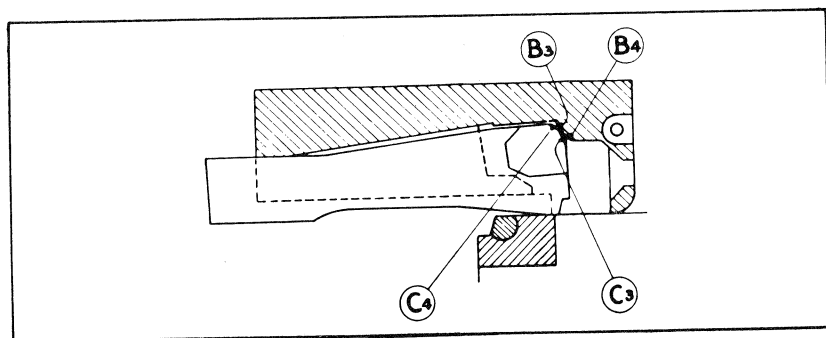
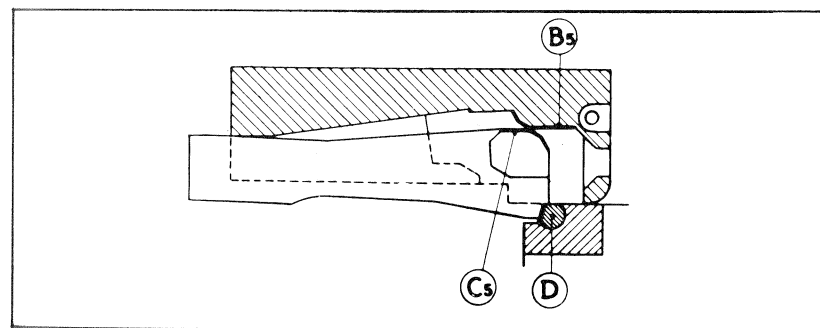

Fig. 10
Fig. 11
- The bolt does not continue through the floor of the receiver and it is held in place by the action of the slide push ramps (B3) on the shoulders of the bolt (C3) (fig. 10).
- The locking ramps of the slide (B4) and the bolt (C4) (fig. 10) come in contact and push it down into engagement with its locking shoulders (D) (fig. 11).
- The slide continues its forward movement and its surface (B5) is brought on the bolt surface (C5) (fig. 11) avoiding the bolt to lift and unlock.